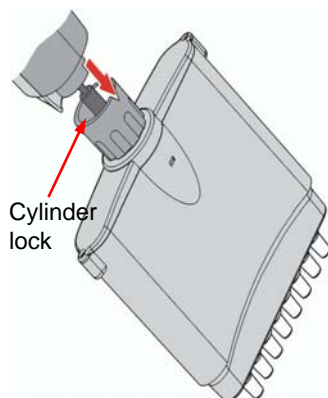

Figure 13: Push the metal cylinder lock downward until you hear a click sound.
4. Lay the Labnet Excel electronic pipette down on a flat surface. Push the metal cylinder lock downward until you hear a click sound as shown in Figure 13.